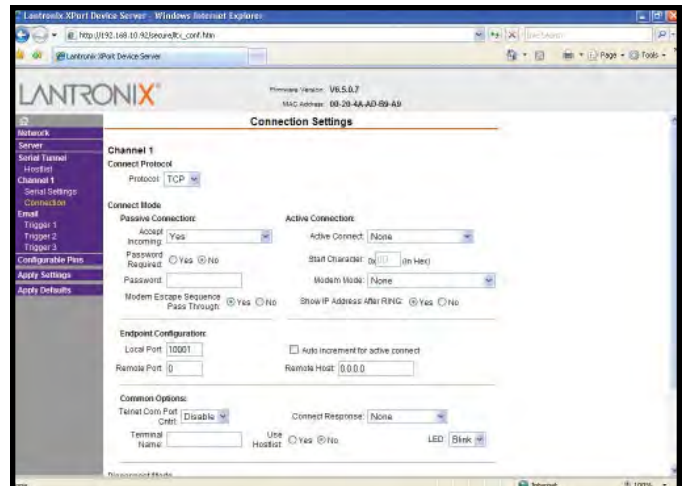

Figure 74. Channel 1 Connection Settings
- V. Click on the "Channel 1 Connection" link located in the left-hand margin (see Figure 74).